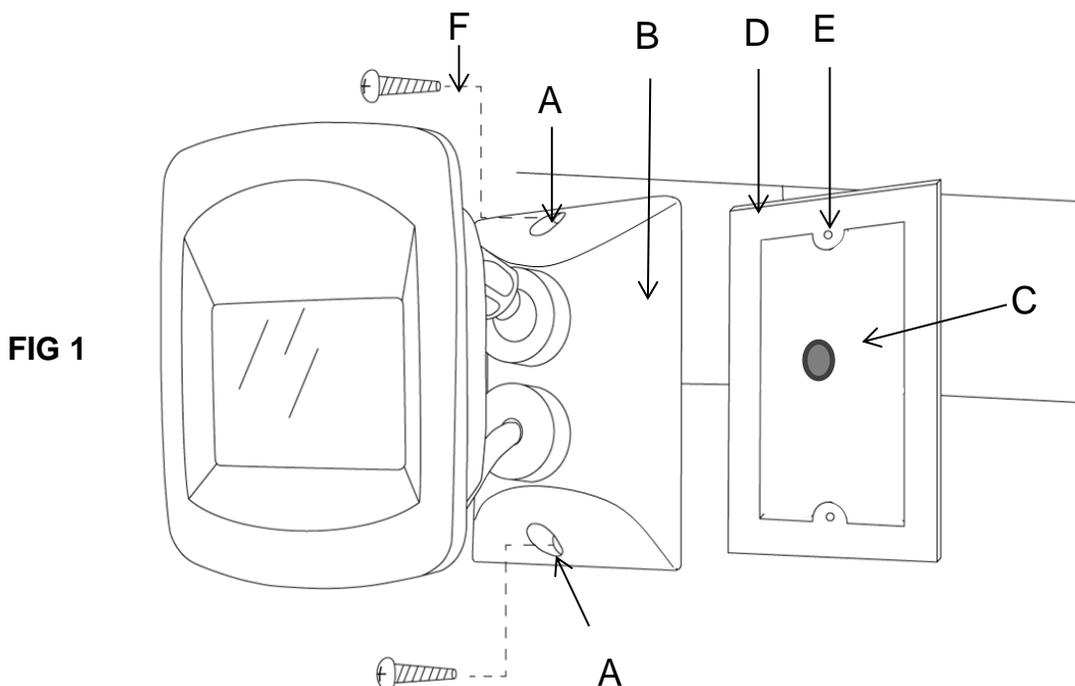

FIG 2 – terminal block
- 3) Drill suitable size hole in mounting surface for electrical connections (C). Fit the supplied plastic wall plugs. Wall plugs must be flush. NOTE: Take care not to drill into concealed electrical wiring.
- 4) Remove protective backing from self-adhesive foam gasket (D). Attach the self-adhesive foam gasket to the mounting surface, aligning holes in the gasket (E) to the wall plugs.
- 6) Connect the Active incoming supply connection to the terminal block connection marked "Lin", as per FIG 2, Fig 3.
- 7) Wire the incoming supply Neutral and the load Neutral connection to the terminal block connection marked "N", as per FIG 2, Fig3.
- 8) Wire the load active connection to the switched Active output connection on the terminal block, marked "Lout", as per FIG 2 Fig 3.